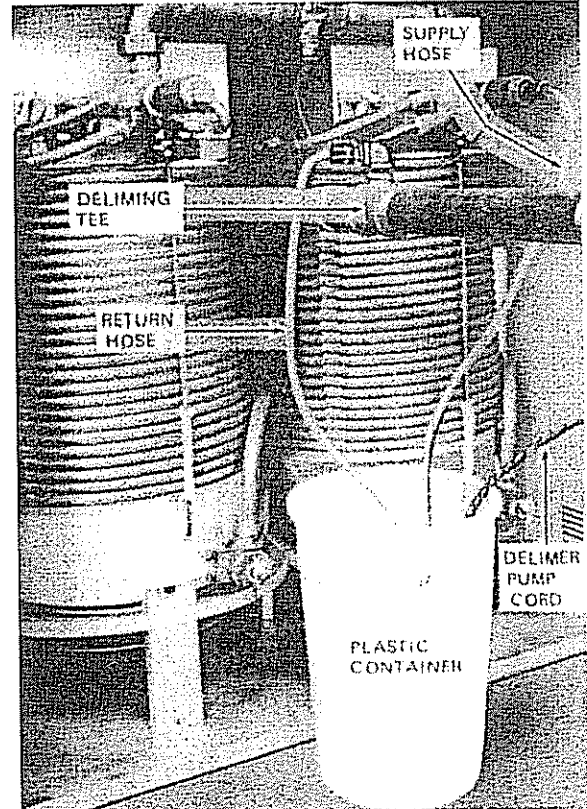

FIGURE 14
7. Place pump and return hose into plastic container, fig. 14, and add 7 gallons of delimer. Secure end of return hose so it will not flip out of the container.